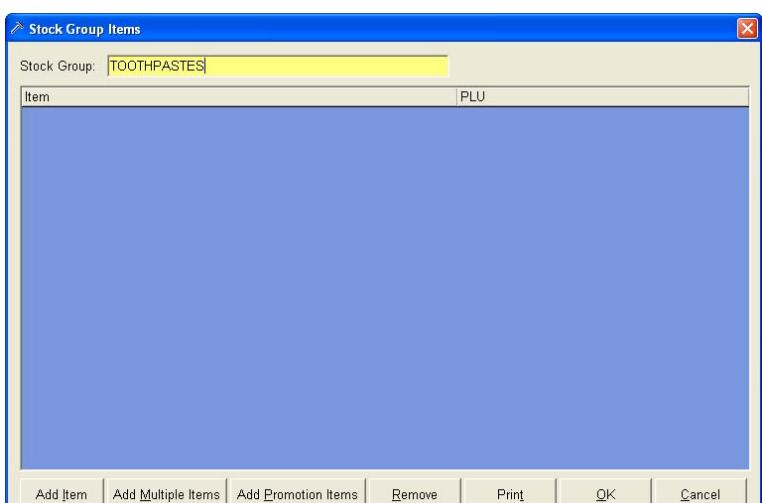

Figure 193
4. The Stock Group Items window will be displayed (as shown in Figure 193).